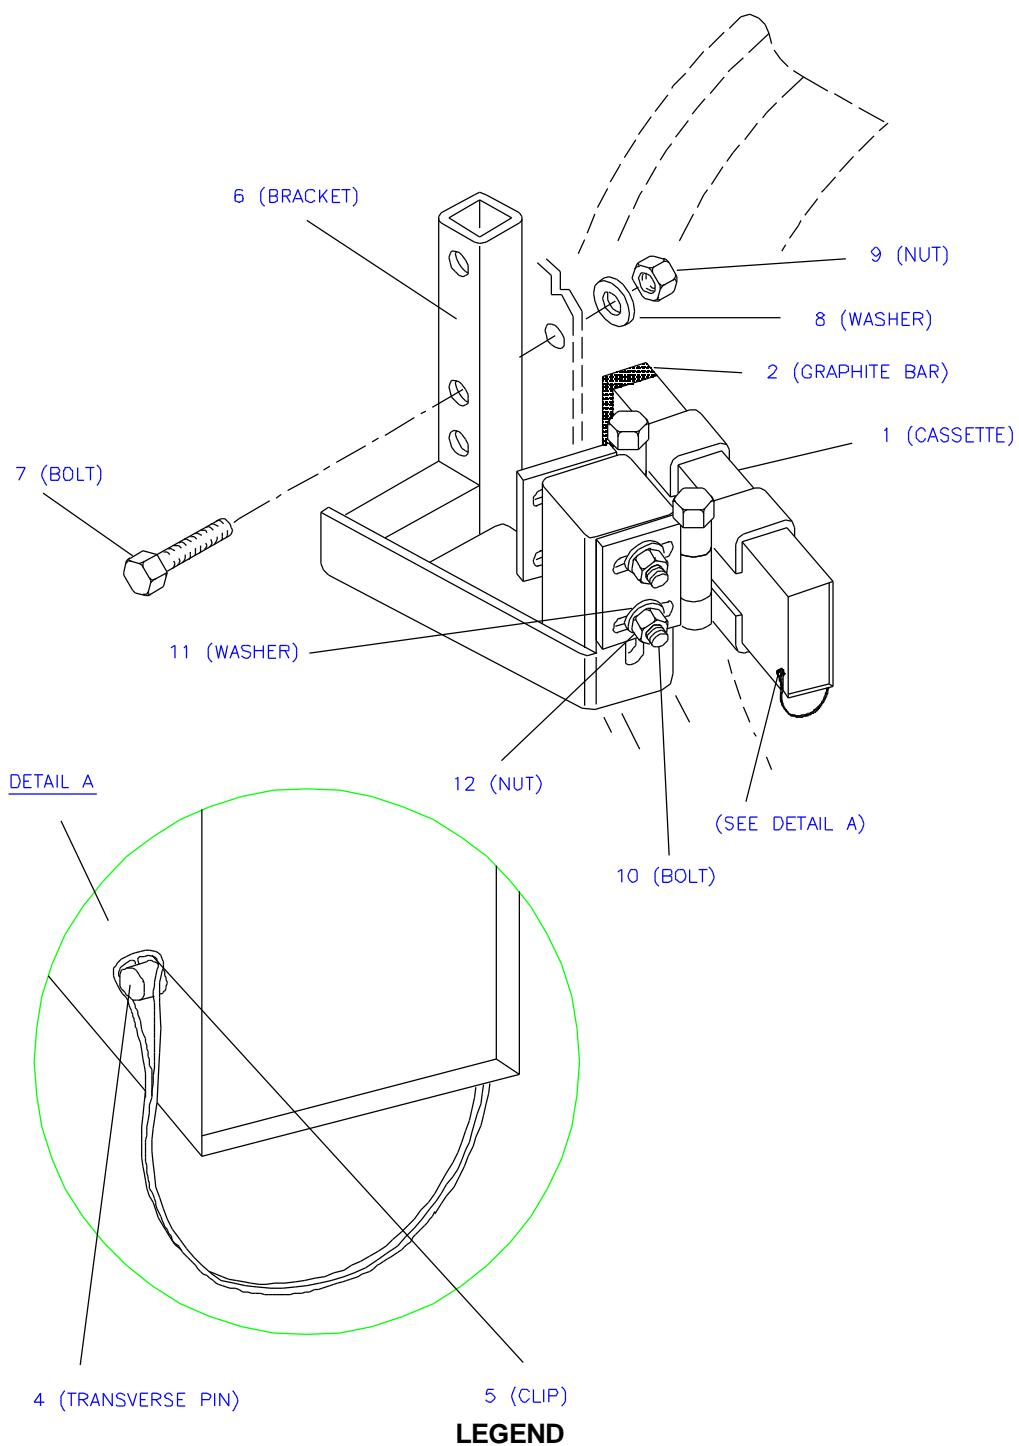

Figure 4-15. Wheel Flange Lubricator
The wheel flange lubricators (see Fig. 4-15) are mainly made up of cassette (1) containing a bar of lubricating material (graphite) (2) which is maintained pressed against the wheel flange by a spiral spring device housed in sliding drawer (3) in the cassette itself.
4-2.14 Graphite Bar Replacement in the Wheel Flange Lubricator (Figure 4-15)